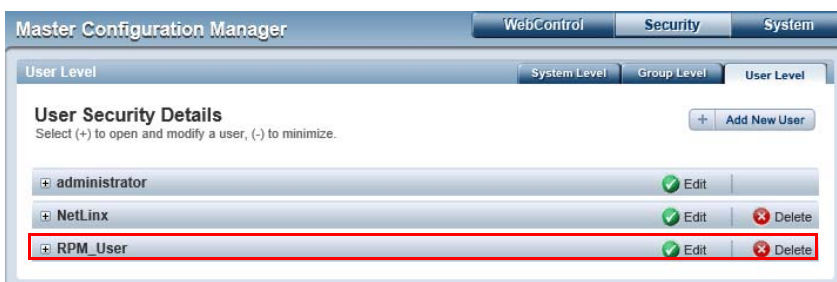

FIG. 105 User Security Details ("RPM_User" user)
- d. Click **Accept** to create the new user and close the *User Security Details* page. The new User is indicated in the *User Level* tab (FIG. 105):